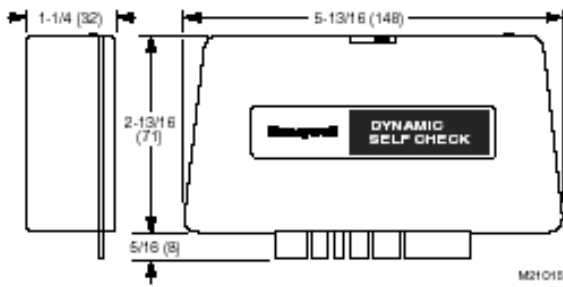

Fig. 1. Dimensions of R7476A,B Dynamic Self-Check Ultraviolet Amplifier in in. (mm).
2. Align the circuit board with the receptacle on the flame safeguard control (see Fig. 1).